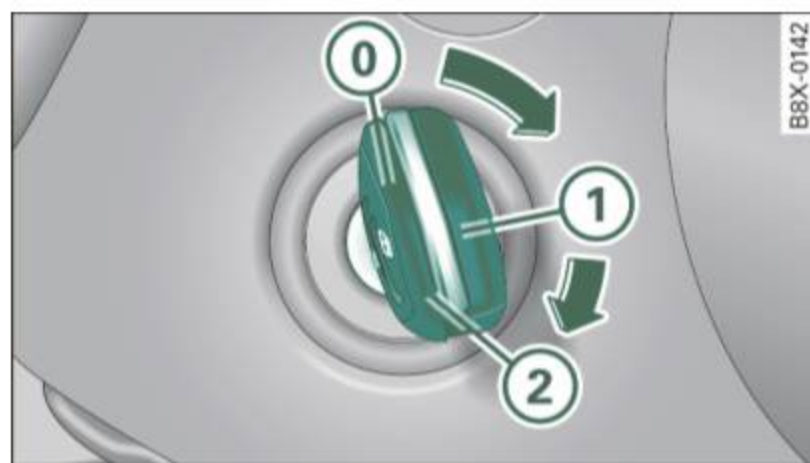

Fig. 107 Ignition lock positions
In position ⇒ fig. 107 ① both the ignition and engine are off, and the steering is locked.
- Turn the ignition key to position ② ⇒ page 106, fig. 107 - do not depress the gas pedal when starting the engine!
- When the warning light goes out, turn the ignition key to position ② to start the engine ② ⇒ page 106, fig. 107. Do not depress the gas pedal when starting the engine!
- Turn the ignition key to position  ⇒ page 106, fig. 107.